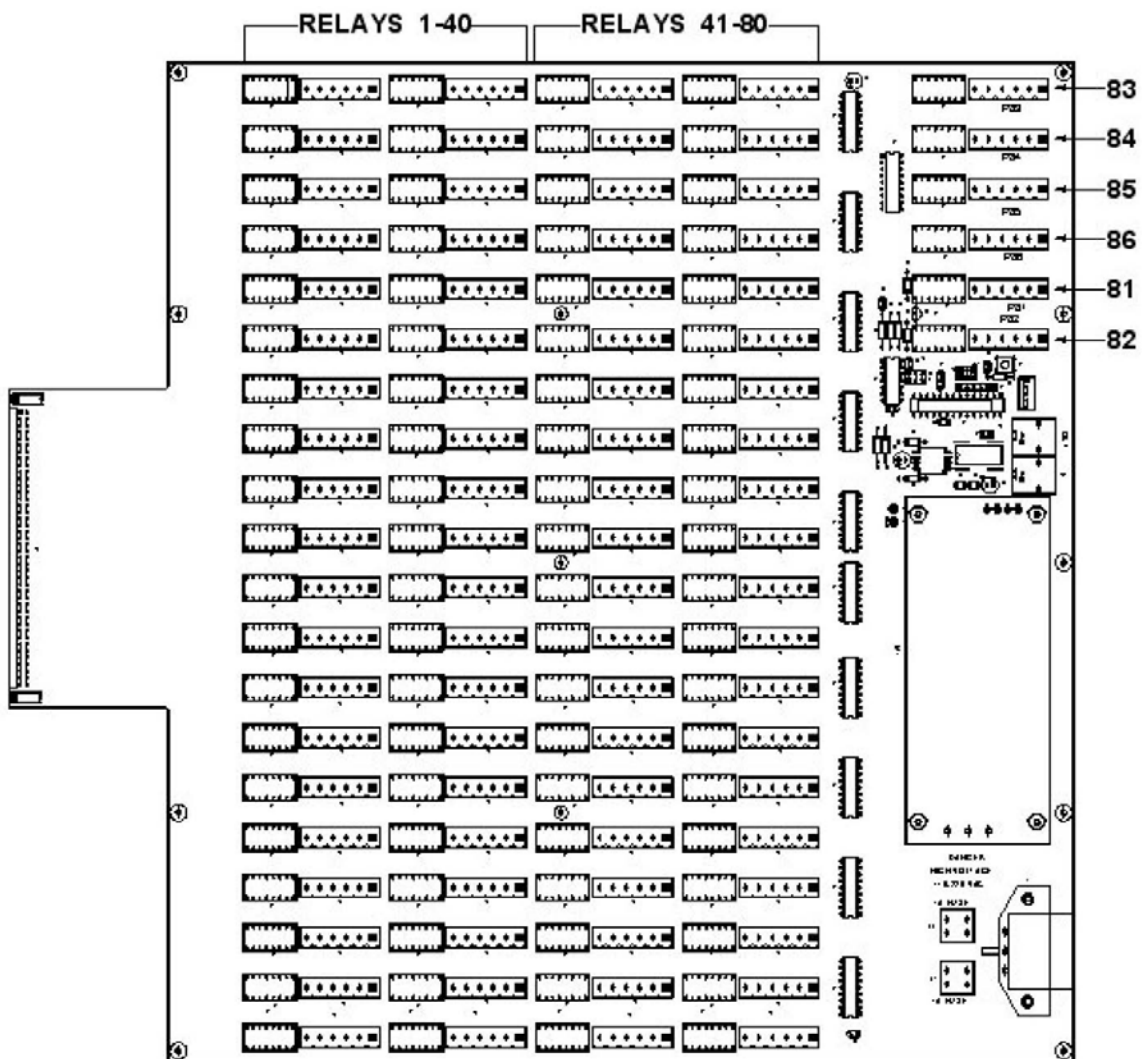

Figure 15. Relay output board
- See Figure 15 for layout and relay locations.